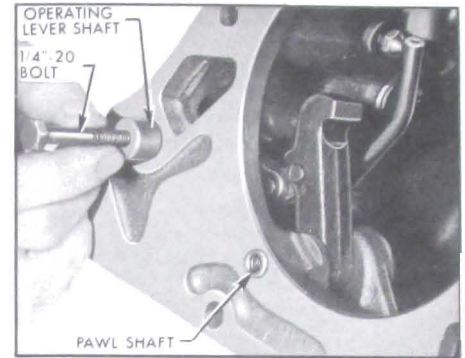

Figure 5-96—Removing Lever and Pawl Shafts
5. Thread a 1/4" - 20 bolt into pawl shaft and withdraw shaft from retainer. Pull lever shaft from retainer in same manner. See Figure 5-96.